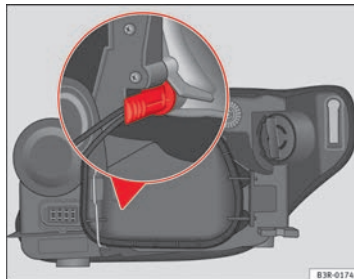

Fig. 201 Side lights. Bulb holder grip in vertical position
- Insert the bulb into the socket so that the side of the bulb holder grip is vertical ⇒ Fig. 201 and press on it.